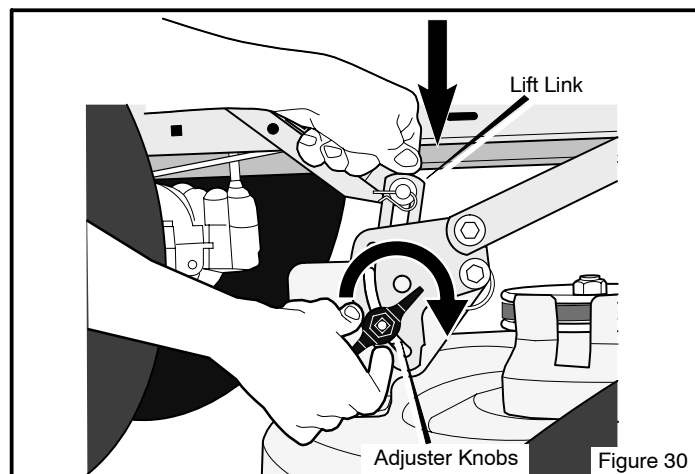

Figure 30
6. Loosen the left and right **adjuster knobs** (Figure 30). Push down on each side of the mower housing. Make sure both sides of the mower housing are setting on a flat surface. Also, make sure the lift links are loose and can easily move up or down.
7. Push down on the **lift links** and tighten the left and right **adjuster knobs** (Figure 30). Make sure the **adjuster knobs** are tight. If necessary, use a wrench to tighten the **adjuster knobs**. Tighten to a torque of 10 foot pounds (13,5 N-m).